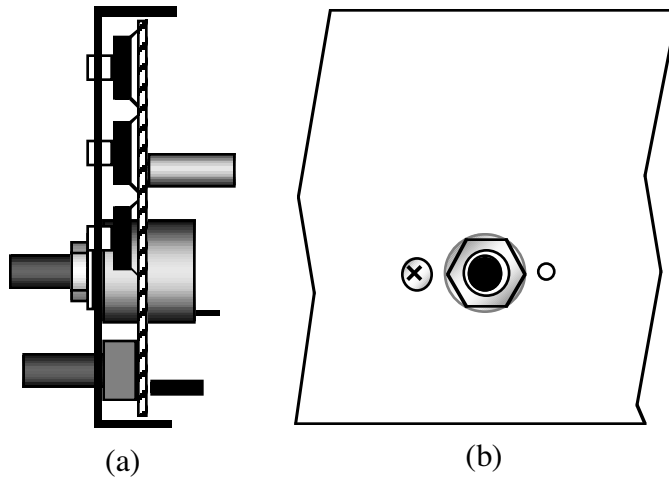

Figure 5-18
- Attach the encoder to the inside of the front panel using the nut and flat washer only. Figure 5-18 shows the side view (a) and front view (b) with encoder properly installed. The encoder has a small metal tab near the shaft that will only allow it to be installed one way. Do not over-tighten the nut. (Note: the green encoder bushing is metal, not plastic.)